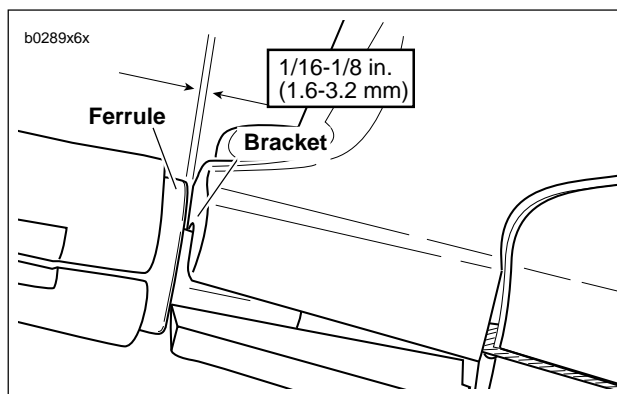

Figure 1-20. Adjusting Clutch Free Play
4. Remove spring (4) and lockplate (5). Turn adjusting screw (6) counterclockwise until it lightly bottoms.
5. Turn adjusting screw (6) clockwise 1/4 turn. Install lockplate (5) and spring (4) on adjusting screw flats. If hex on lockplate does not align with recess in outer ramp, rotate adjusting screw clockwise until it aligns.
- a. See Figure 1-20. Pull ferrule (end of cable housing) away from bracket. Gap between ferrule and bracket should be 1/16-1/8 in. (1.6-3.2 mm).